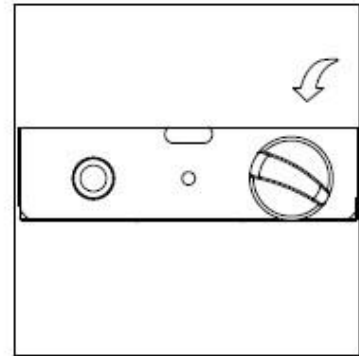

Figure 5
8. Push in and turn the control knob to the "HIGH", then release control knob. If you want a lower temperature, push in the control knob and turn counterclockwise to the "LOW" position. (Figure 5)